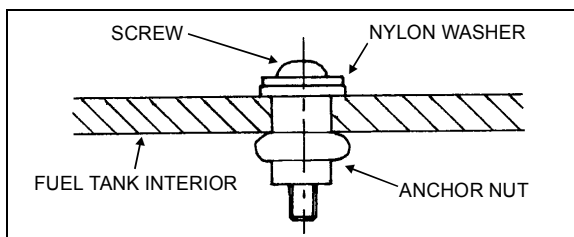

FIGURE 19: FUEL TANK REPAIR
5. Place assembly in drill hole. Tighten screw by 10 complete turns. Refer to Fig. 19.